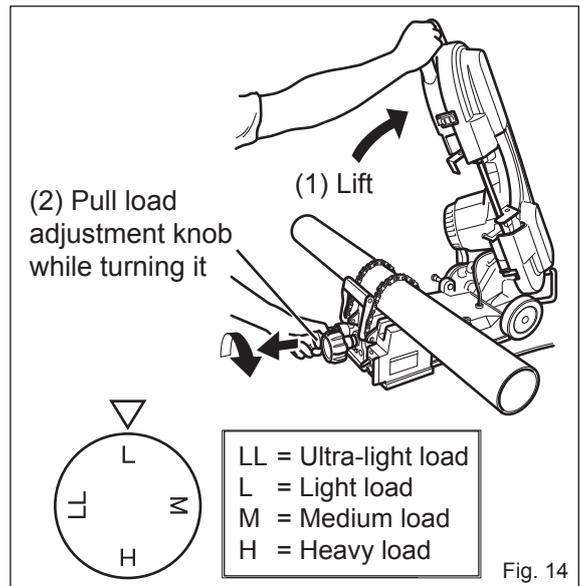

Fig. 14
1. Preparing for Cutting (Fig.14)
1. Adjusting the Cutting Load (Fig. 14)